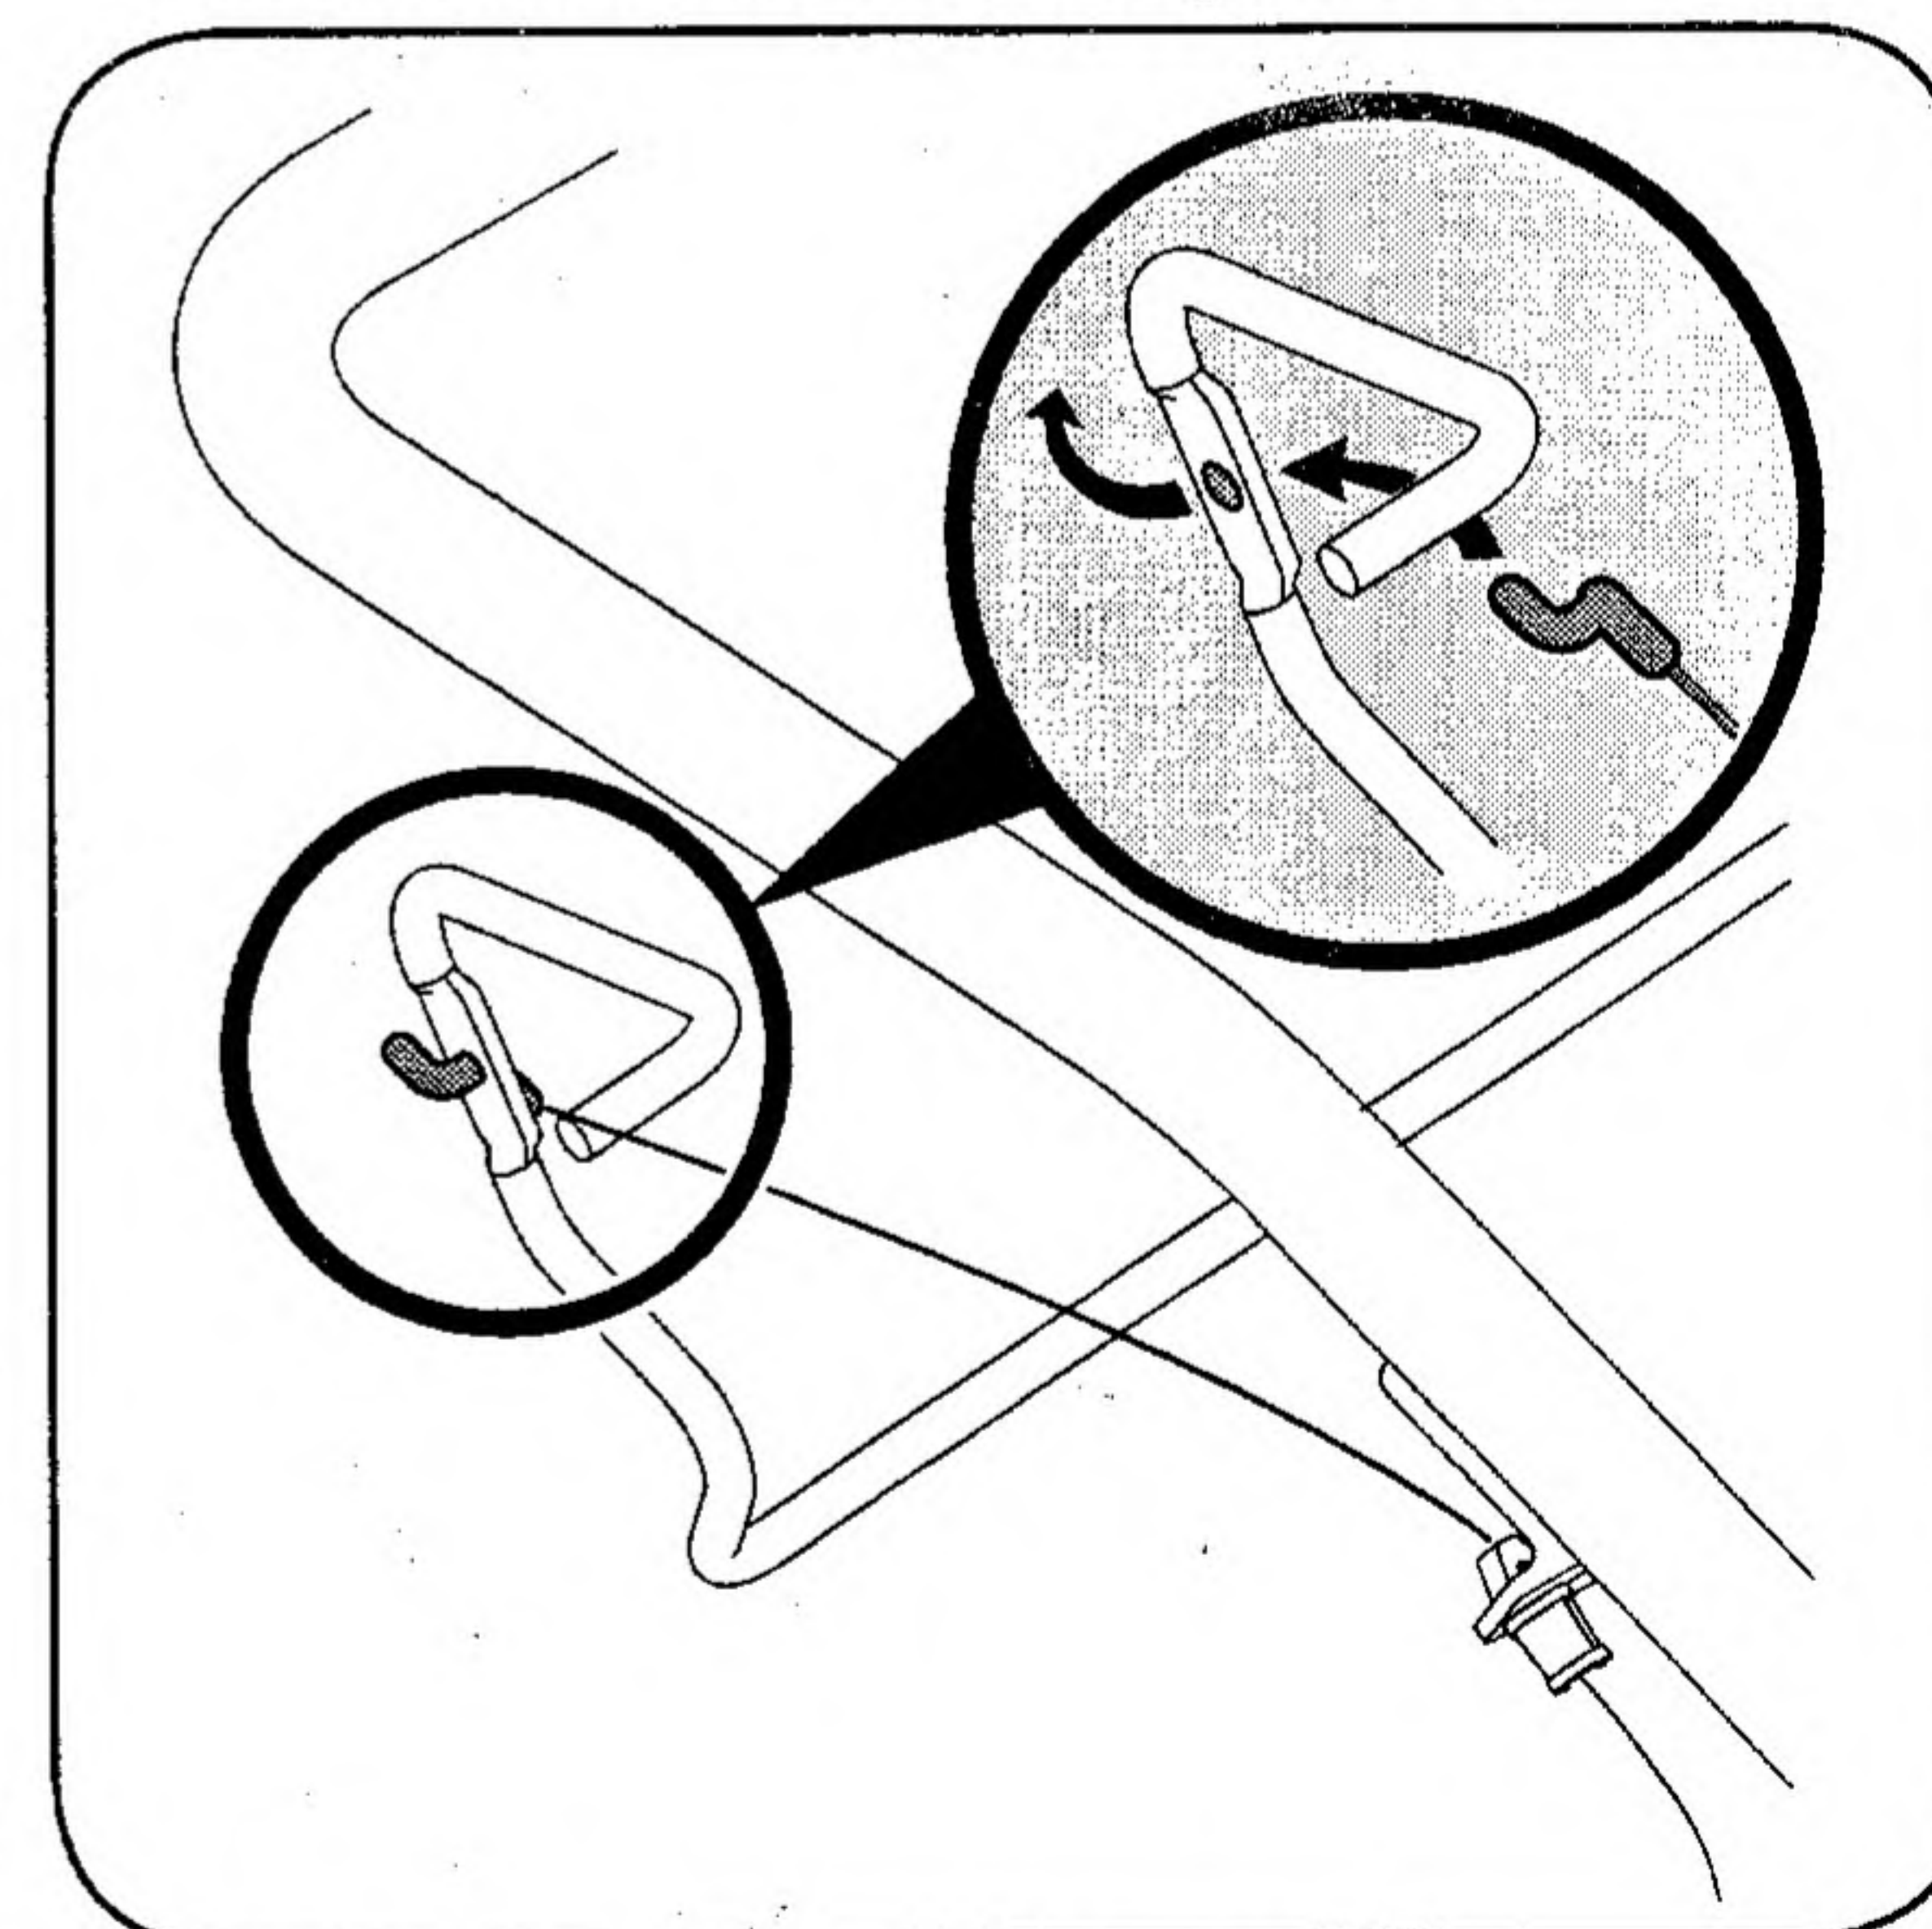

Figure 3-4: Hook cable into tine clutch control.
5. Insert the Z-fitting on the clutch cable into the hole on the tine clutch control. Hook the "Z" end into the opening from the inside to the outside as shown in Figure 3-4.